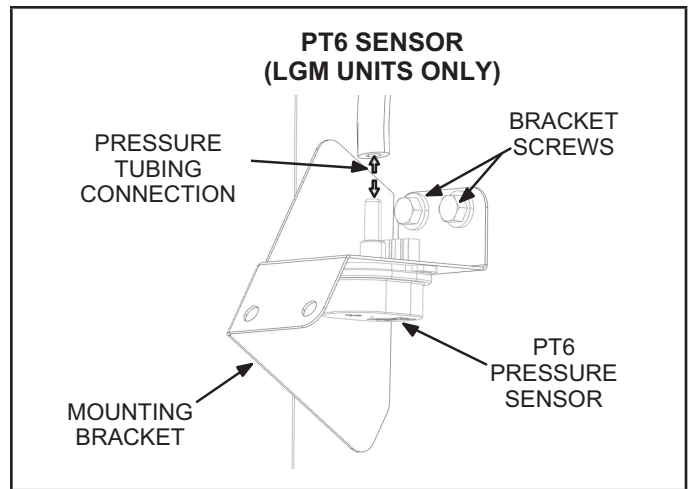

FIGURE 3
- 8 - *LGM Units Only* - Disconnect the pressure tubing from PT6 pressure sensor. See figure 3. Remove two screws and remove sensor/bracket assembly (note the orientation) from existing blower housing. Install the sensor/bracket onto the replacement blower assembly. Reattach the tubing in the same manner they were removed.